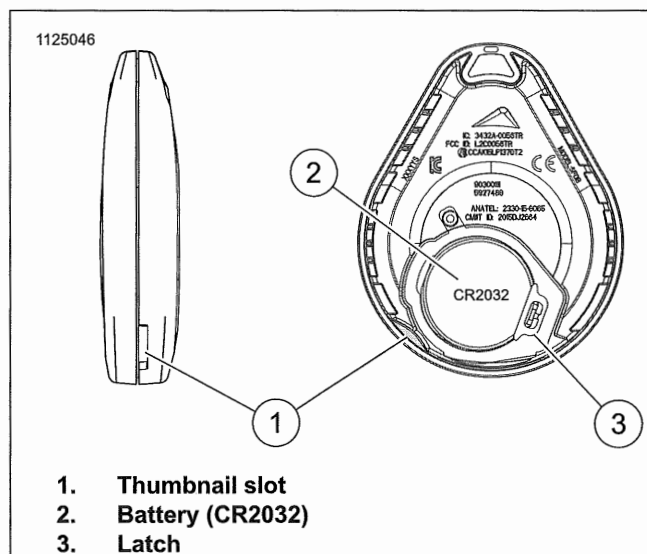

Figure 7-117. Replace Fob Battery
- a. See Figure 7-117. Place a thin blade in the thumbnail slot (1).